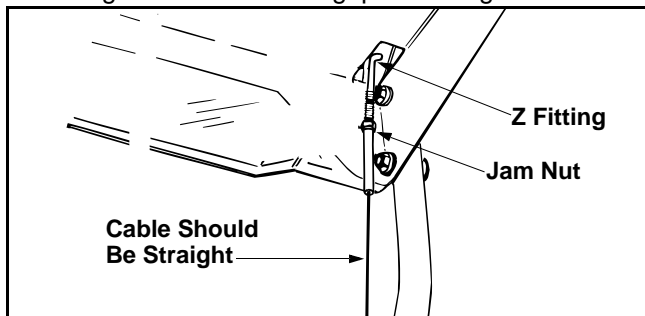

Figure 11
- Insert "Z" fitting (Hardware A) into hole in clutch grips. See Figure 11. *Two extra jam nuts are included in the hardware pack in the event either are lost during shipping.*
- Thread the jam nuts all the way up each of the "Z" fittings, toward the handle panel. See Figure 11.
- If Z fittings are **not** already attached, insert “Z” fitting into hole in clutch grips. See Figure 11.